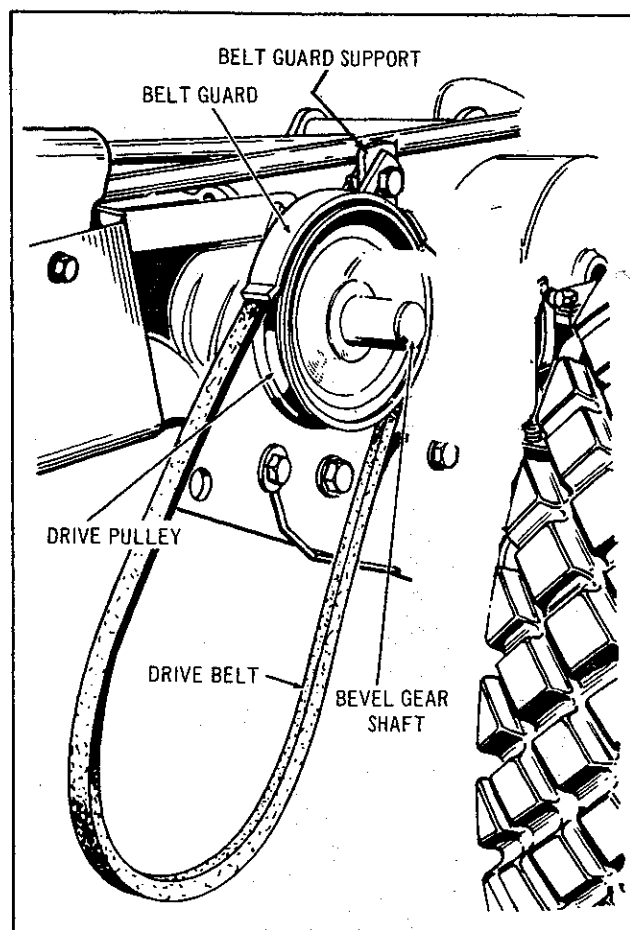
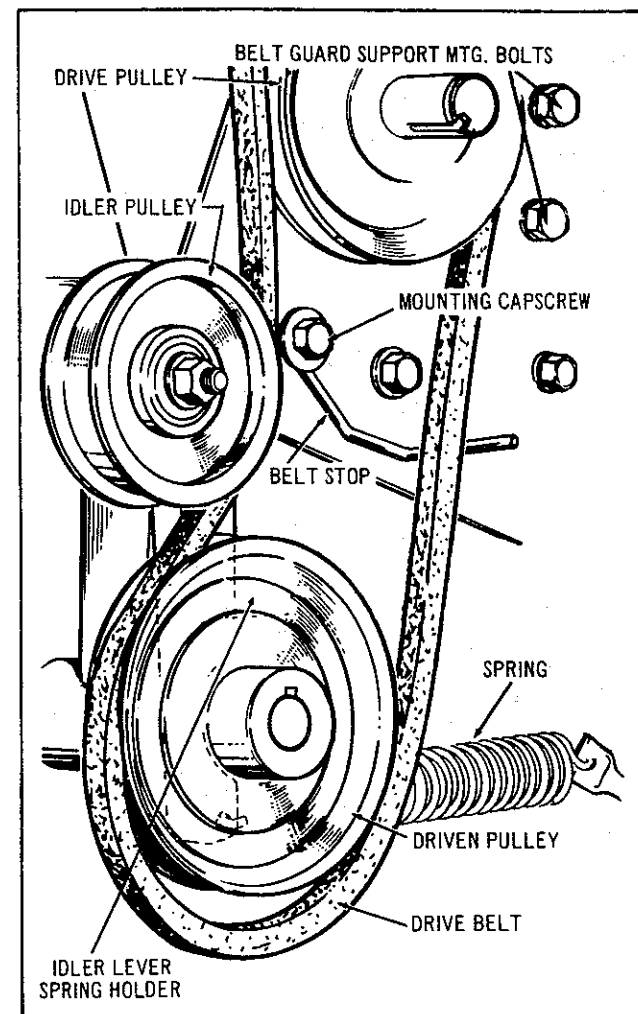

FIG. 15
FIG. 19
1. Mount Drive Pulley to Shaft of Bevel Gear Assembly See Figure 15, and secure in place with Key and Set Screw. Hub of Drive Pulley is to face inward. Place Drive Belt on Drive Pulley and mount Belt Guard Support to inside surface of Side Plate nearest Drive Pulley. See Figure 19 for Mounting Bolt location. Attach the Belt Guard to the Guard Support as shown in Figure 15. Allow approximately $3/16$ " clearance between Belt and Guard.
5. Remove Front Hex. Cap Screw from Pull Bar. Replace with stud 157273 provided. Short end inserted. Slip on Handle Assembly and tighten with Hex. HeadLock Nut to permit free movement of handle. Mount "V" Belt in place on driven pulley as shown in Figure 19 and attach spring to hole provided in the bottom of the Bracket Assembly. Hook
other end of the spring to the Handle Assembly. Mount Belt Stop as shown with 3/8" Bolt, Flat Washer, Lock-washer, and Hex. Nut. When Implement is attached to tractor with Idler Pulley engaged, 1/8" clearance between Belt Stop and back of "V" Belt is required. NOTE: "V" Belt runs under Idler Pulley. See Figure 19.